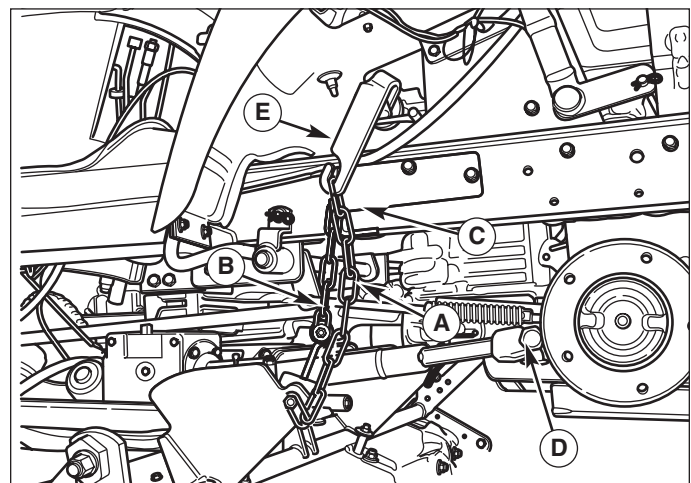
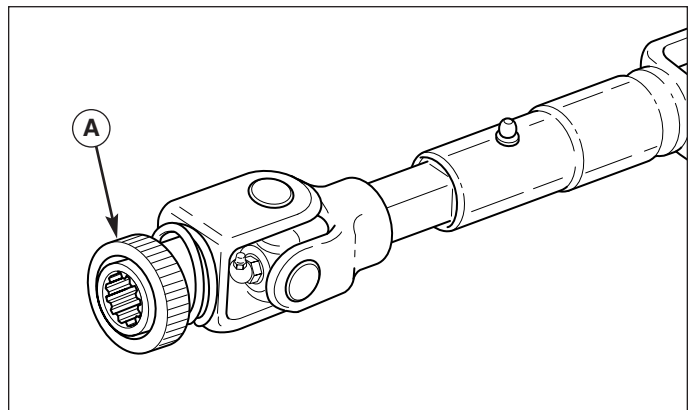

Figure 19. Mower Lift Chains
Figure 22. Mower Drive Shaft
10. Unhook the two lift chains (long chains) (A, Figure 19) from the tractor lift arms (E), and two leveling chains (five link) (B) from lift brackets (C).
16. Disconnect the drive shaft (D, Figure 19) from the tractor by pulling back the locking collar (A, Figure 22) and pulling the shaft off the PTO.
7. Make sure the mower lift chains (A, Figure 19) are directly below the lift arms. Attach the two mower lift chains (long chains) to the tractor lift arms (E) on both sides of the tractor (Figure 19), and attach the two leveling chains (B, five-link chains) to the lift brackets (C).
16. Pull the drive shaft locking collar (A, Figure 22) back and slide the drive shaft all the way onto the tractor PTO shaft (B, Figure 19).